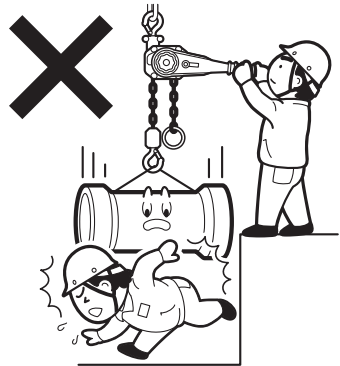

Figure 10
- (1) Individuals unfamiliar with the contents of the instruction manual and caution nameplate must not operate this product.
- (2) Do not use this product to support, lift, or transport people.
- (3) Do not allow anyone to enter the area underneath or within the movement range of suspended loads. Additionally, do not move the load above anyone. (Figure 10)
- (4) Use this product within a temperature range of -40°C to $+60^{\circ}\text{C}$ (with humidity of less than 100%RH).
- (5) Do not use this product in water.
- (6) Never use this equipment in locations constantly subjected to wind, rain, or waves, or in locations susceptible to salt damage, acid, alkali, etc., as this could cause damage to the equipment and load chains.